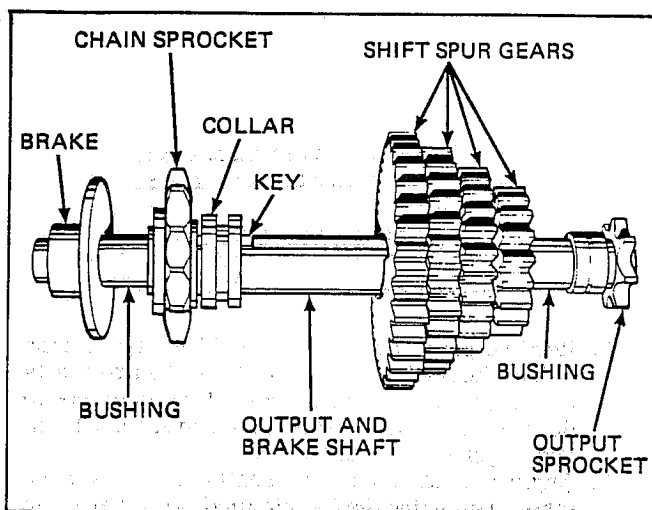

Figure 2-25
8. Remove output sprocket from output shaft and remove shift spur gears, keys and collar and chain sprocket. See Figure 2-25.